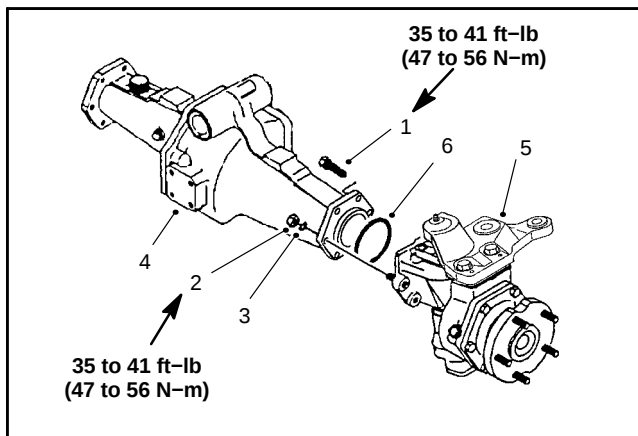

Figure 63
1. Remove the mounting screws, nuts and lock washers. Remove the bevel gear case/axle case assembly and O-ring from the axle support (Fig. 63).